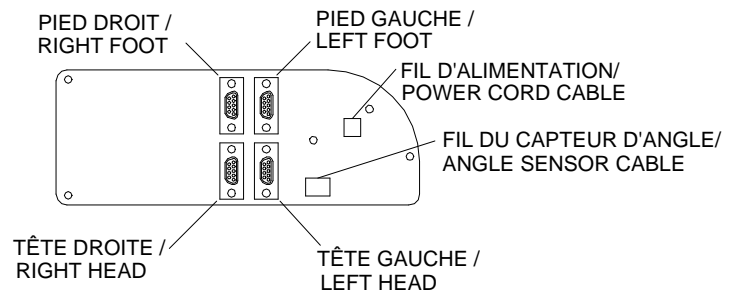

Figure 3.7A
Unless otherwise indicated, all reference letters in this procedure refer to figure 3.7A on page 21.
4. Using a Phillips screwdriver, remove the screws (E) holding the foot cover plate (F) to the frame. Remove the plate.
5. Using a 9/16" wrench, remove the bolt, washer and spacer (B) holding the protective top socket (C) to the accessory bracket.
9. Using a small flat-blade screwdriver, remove the load cell cable connectors (G) from the PC Board. Carefully note their connecting position so that they are properly reconnected to the replacement PC Board. You can also refer to figure 3.7A on page 21 for the connecting position of each load cell cables to the PC Board.
11. Using a Phillips screwdriver, remove the screw (H) holding the PC Board grounding wire to the accessory bracket.
12. Using a Phillips screwdriver, remove the five screws (D) holding the PC Board to the cover and remove the PC Board from the cover. Lay the cover down.
3. Using a Phillips screwdriver, remove the screws (E, fig. 3.7A, page 21) holding the foot cover plate (F, fig. 3.7A, page 21) to the frame. Remove the plate.
5. Lower the stretcher until it rests on the jack stands. The frame support (A) is now free of any tension.
6. Using a 9/16" wrench and a 9/16" socket and ratchet, remove the two bolts/locknuts (B) holding the load cell to the frame support.
9. Using a 9/16" wrench, remove the bolt, washer and spacer (B, fig. 3.7A, page 21) holding the protective top mounting socket (C, fig. 3.7A, page 21) to the accessory bracket.